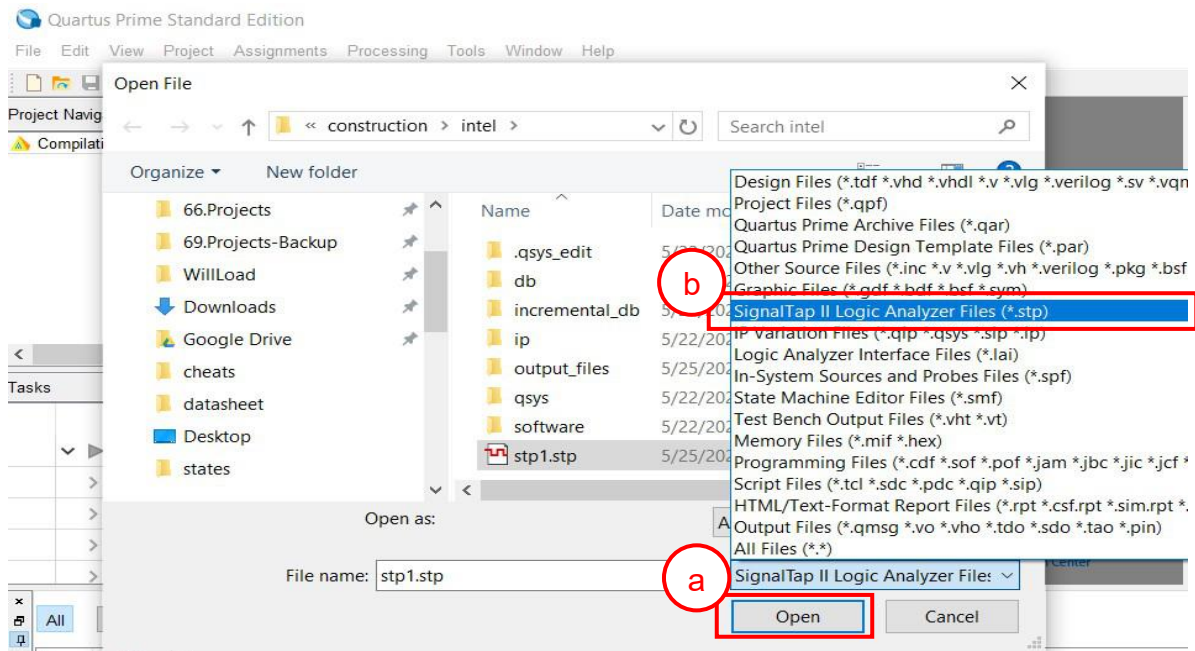

Figure 4-2 Open file “stp1.stp”
- Select "stp1.stp", then click Open button as shown in Figure 4-2